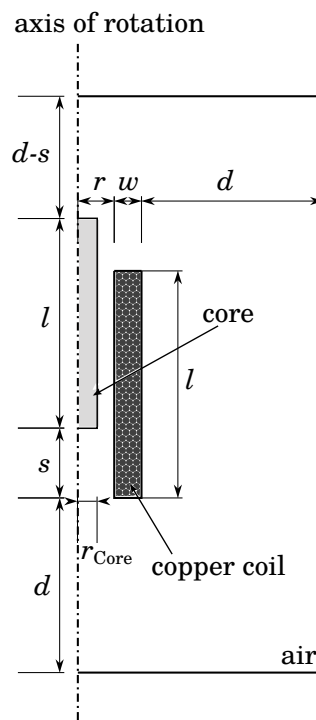

Figure 1: Inductive positioning sensor.
Figure 1 depicts the **axis-symmetric** setup of an inductive positioning sensor. It consists of a copper coil of length l , inner radius r and outer radius $r + w$ and a movable iron core of length l and radius r_{Core} . The whole assembly operates in air.
- 2.2. Model the **geometry** as shown in Fig. 1. Define and use the following parameters with their corresponding values: